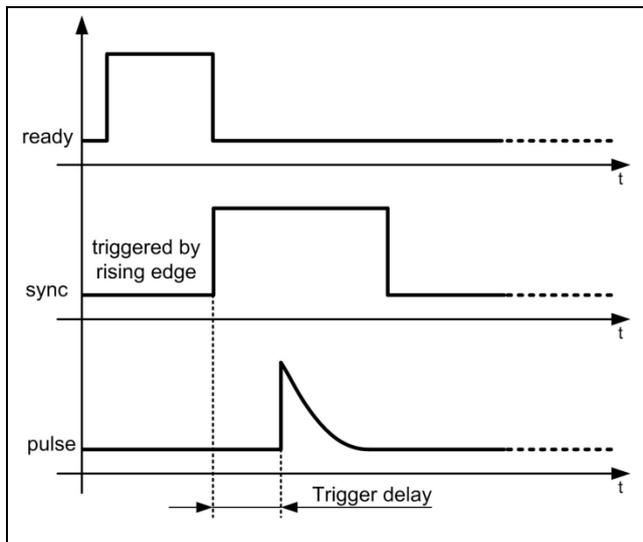
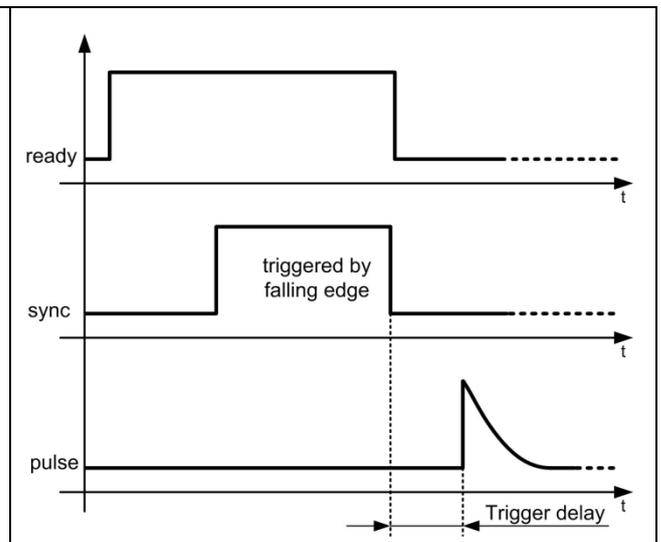

Figure 43: Signal sequence of external trigger mode, trigger on rising edge
Figure 44: Signal sequence of external trigger mode, trigger on falling edge
The ready TTL output of the BPS 202 signals when the BPS 202 is ready to start a pulse. Figure 43 and Figure 44 show the sequence of control signals when the external trigger mode is used.
- c) pulse is emitted on a rising or falling edge at the sync TTL input (Figure 44). This depends on the settings in the BPS 202-Client software (see Section 8.9),